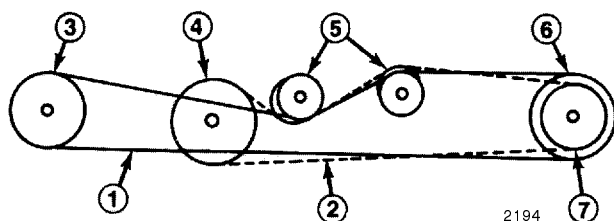

Figure 30
To replace traction or jackshaft belt, use the following procedures and belt routing diagram (Fig. 30).
5. Install belts, route traction belt over transmission as shown (Fig. 30).